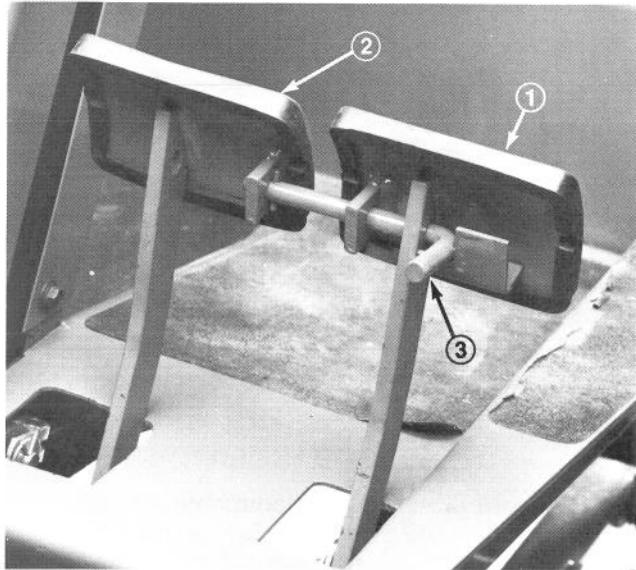
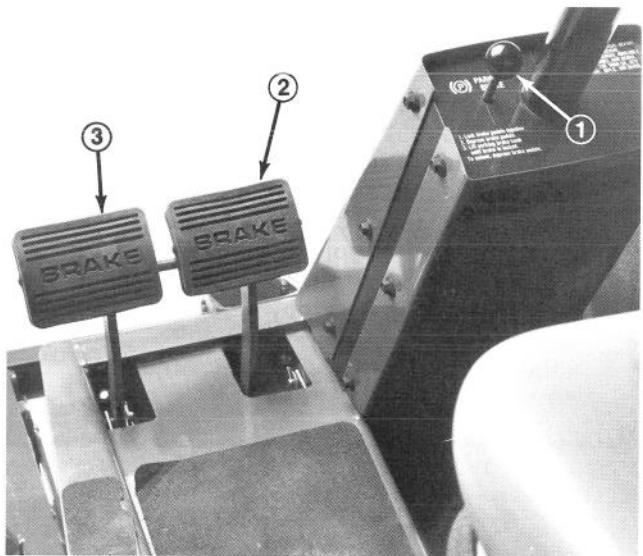

Figure 16
Figure 17
**Parking Brake** — Whenever the engine is shut off, the parking brake must be engaged to prevent accidental movement of the machine. To engage the parking brake, push lock arm (Fig. 16) on left brake pedal so that it locks together with the right pedal. Next, push down fully on both pedals and pull parking brake knob out (Fig. 17) then release the pedals. To release parking brake, depress both pedals until parking brake knob retracts. Before starting the engine, however, lock arm may be disengaged from left brake pedal so both pedals work independently with each front wheel.
**Service Brakes** (Fig. 17) — The left and right brake pedals are connected to the left and right front wheels. Since both brakes work independently of each other, the brakes can be used to turn sharply or to increase traction if one wheel tends to slip while operating on certain slope conditions. However, wet grass or soft turf could be damaged when brakes are used to turn sharply. To make a "quick-stop", depress both brake pedals together. Always lock brakes together when transporting the traction unit.